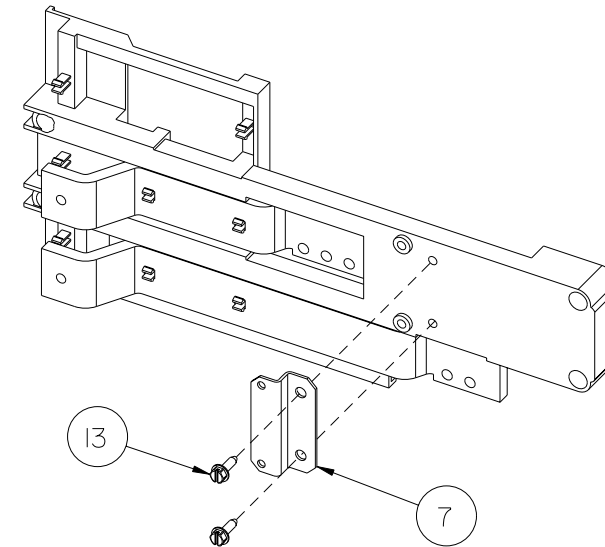

Figure 5
6. Reference fig. 5 - Install the Breaker Mounting Bracket. Insert one 1/4-20 X 9/16" screw (item 13) through each of the two 0.438" diameter holes in the Breaker Mounting Bracket (item 7) and into the threaded inserts on the Strap Support Barrier and tighten.